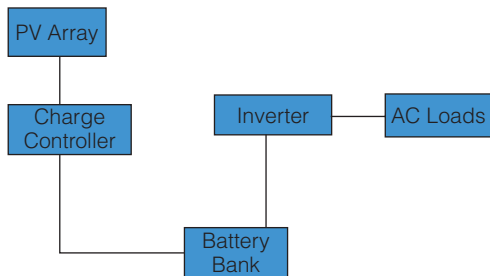

Figure 5.6 Common inverter configuration
- In some systems, a small inverter is bought to power a single appliance. For example, small systems often have a 150W inverter attached to their system to power a colour TV. Usually, the appliance is plugged directly into the inverter. See Figure 5.6.